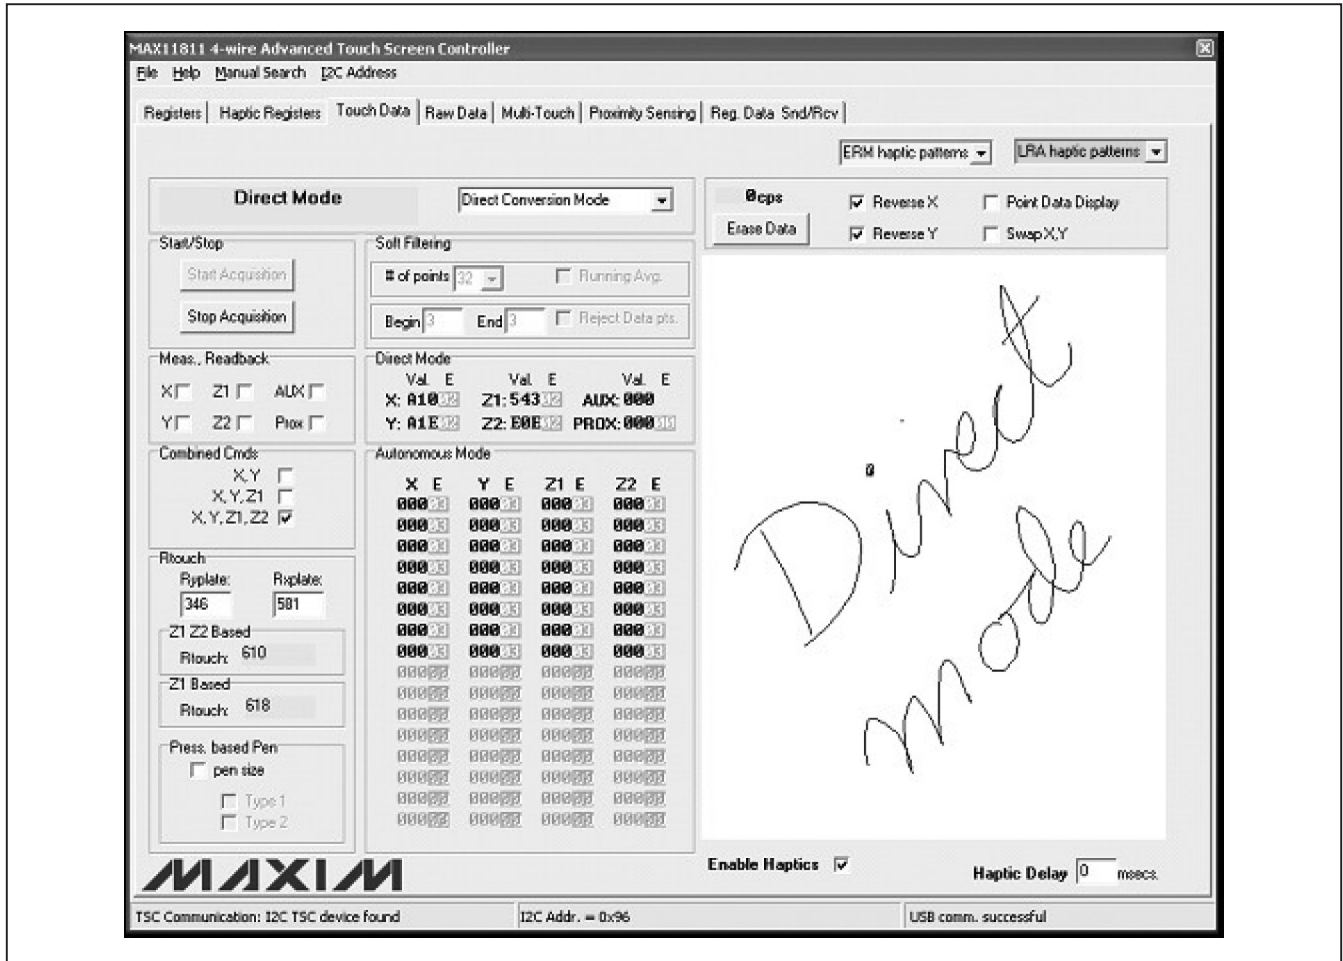

Figure 8. Touch Data Tab (Direct Mode)
**Configuration** register, or by selecting it in the **Touch Data** tab, as shown in Figure 8.